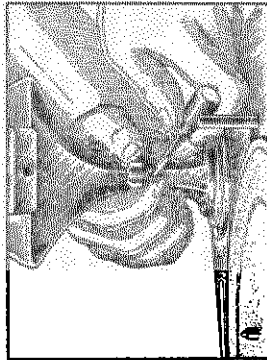

Figure 2—Adjusting height of tone arm
- Place a Home Recording needle into the pickup as far as it will go. Then lower the pickup on the side of the turntable. The needle should extend from $\frac{1}{8}$ " to $\frac{1}{16}$ " below the top of the metal edge of the turntable. If it does not, an adjustment can be made by means of a screw located under the tone arm. Lifting the arm provides accessibility to the screw. See Figure 2.